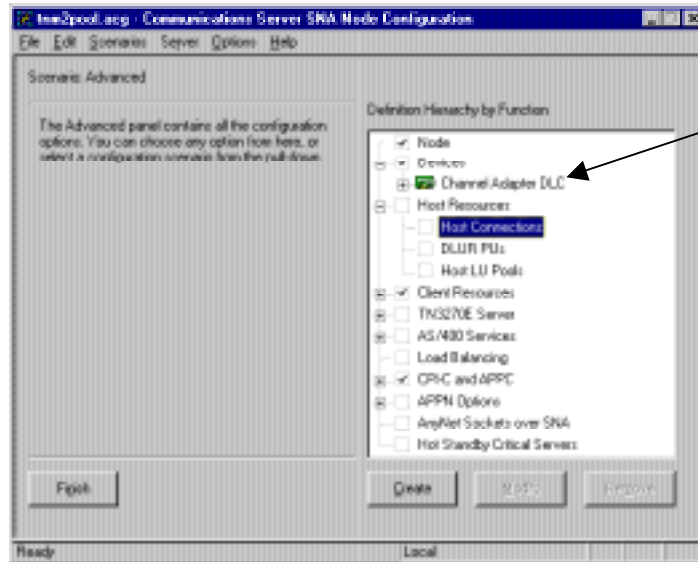

Figure 15-11. ESCON Adapter DLC
2. Verify that the ESCON adapter is in the list of devices in the configuration (Figure 15-11).